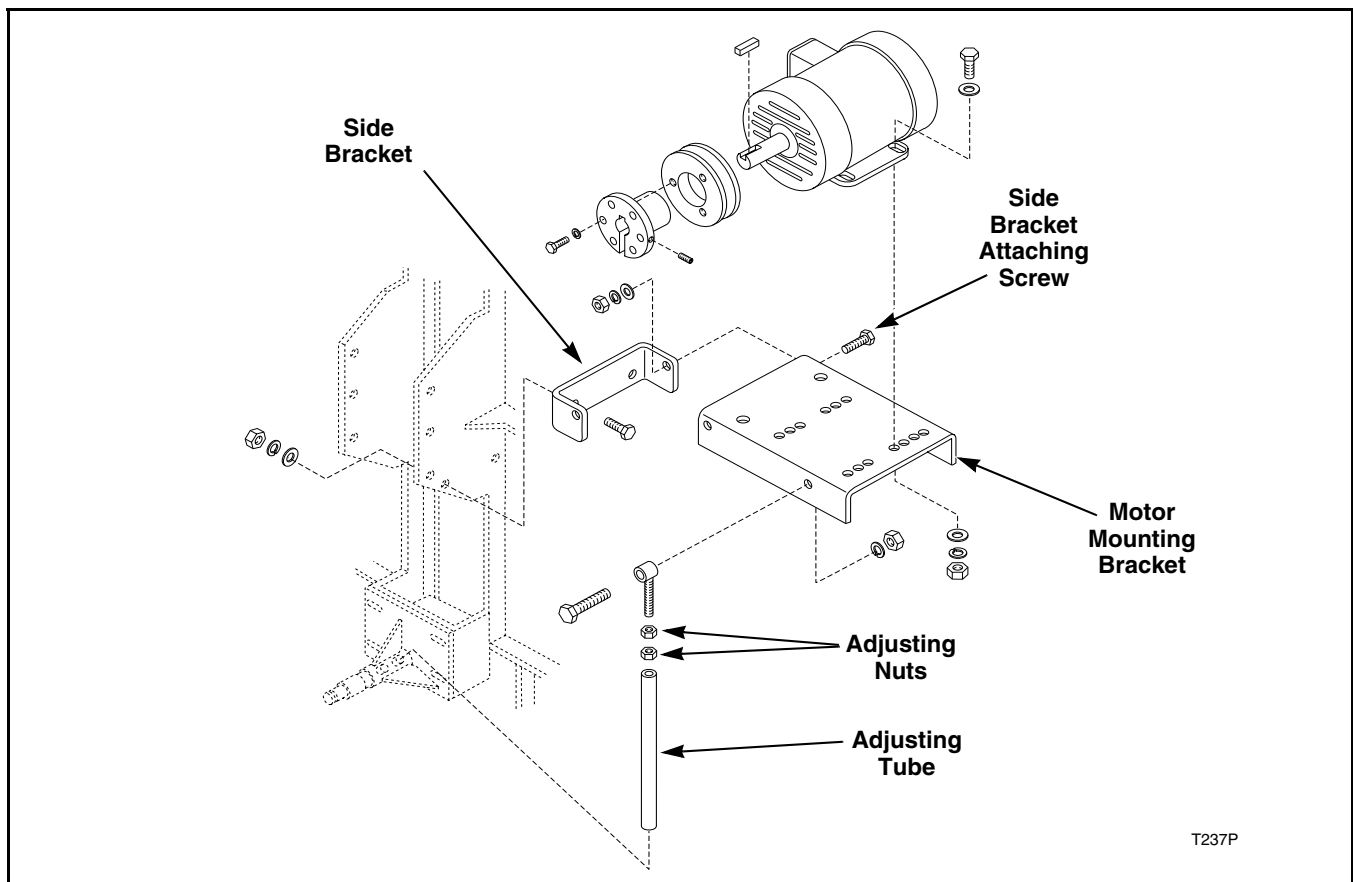

Figure 1
Refer to *Figure 1*.
- Loosen adjusting nuts on outer eyebolt and rotate bottom nut clockwise until proper tension is reached. Refer to *Figure 1*.